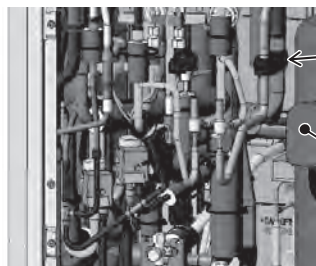

Figure 6
- (6) Cut the cable tie on the rubber spacer to remove it. (See Figure 6.)